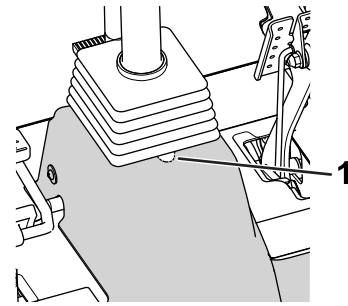

Figure 20
6. Cut out a U-shaped notch on the shroud (Figure 20).